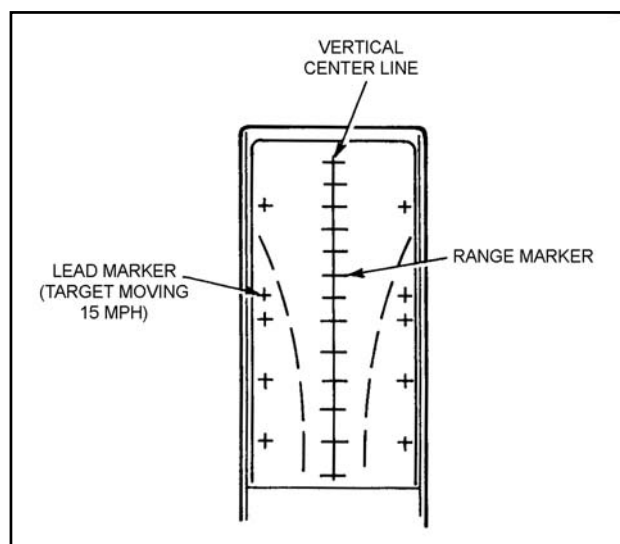

Figure 2-9. Front sight, M72A2 and M72A3 LAWs.
a. **Front Sight, M72A2 and M72A3 LAWs.** The front sight has a raised vertical range line marked with ranges from 50 to 350 meters in 25-meter increments (Figure 2-9). Two curved stadia lines are etched on the front sights. Do not use the stadia lines on this sight to estimate range, because they are inaccurate. Lead indicators are located on either side of the stadia lines to help you engage moving targets. On the M72A3, use the front sight illuminated range marks at the 100-meter and 150-meter points to help you engage targets in low light.